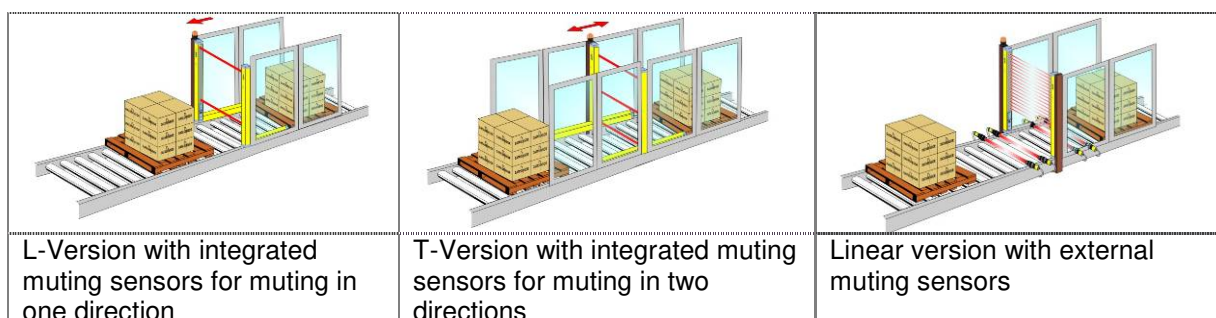

Fig. 40 – Application examples for the muting function
- The muting function excludes the light curtain during operation and maintains the OSSD output switching elements in an activated state, based on the specific operating requirements (Fig. 40).